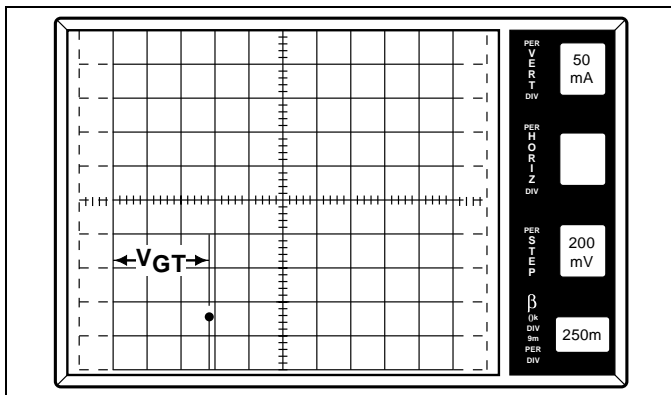

Figure 19.8  $V_{GT}$  is 580mV
- Gradually increase *Offset Multiplier* until device reaches the conduction point (See Figure 19.8.) Measure  $V_{GT}$  by following horizontal axis to the point where the vertical line crosses axis. This measured value is  $V_{GT}$ .